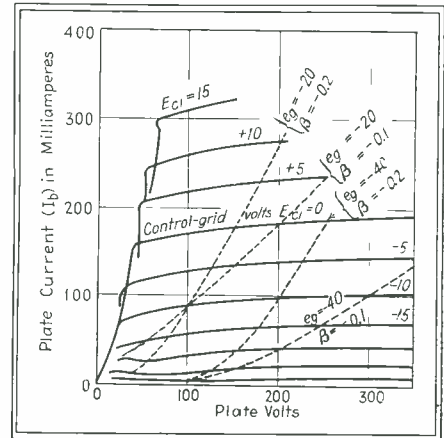

Fig. 2.—Static curves of 6L6 (solid lines) with dotted construction lines for various feedback ratios and bias
one grid voltage curve for every plate voltage step taken, without having to calculate each point separately. The grid curves shown in Fig. 2 are plotted in steps of 5 volts. If we take  $\beta$  as  $-0.1$ , Eq. (4) shows that the plate voltage steps have to be taken in steps of 50 volts each. If  $\beta$  is taken as  $-0.2$ ,  $\Delta E_b$  becomes 25 volts. The dashed lines are the resulting feedback characteristics